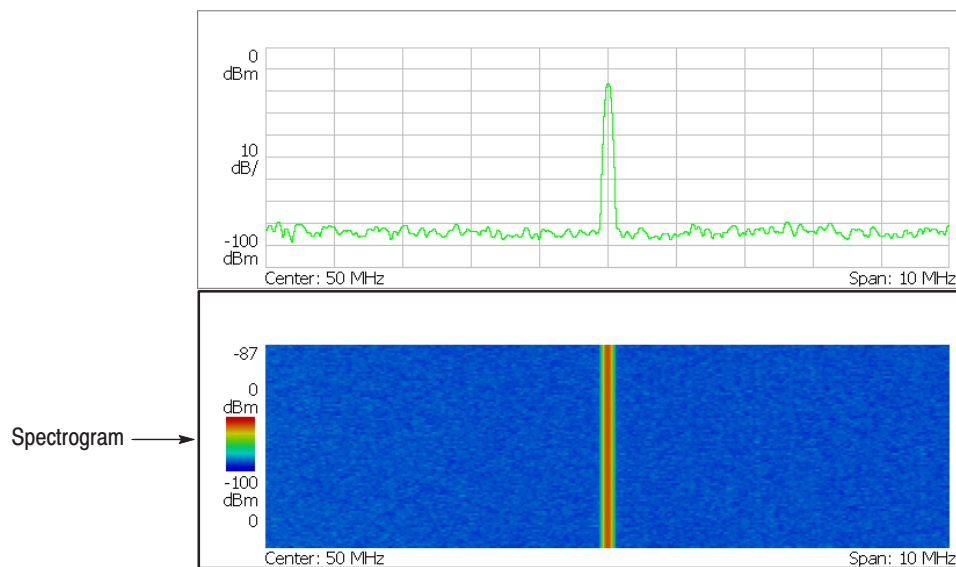

Figure 4-4: Spectrogram display
- b. Press the **S/A with Spectrogram** side key. Check that the spectrogram is displayed on the lower side of the screen (see Figure 4-4).